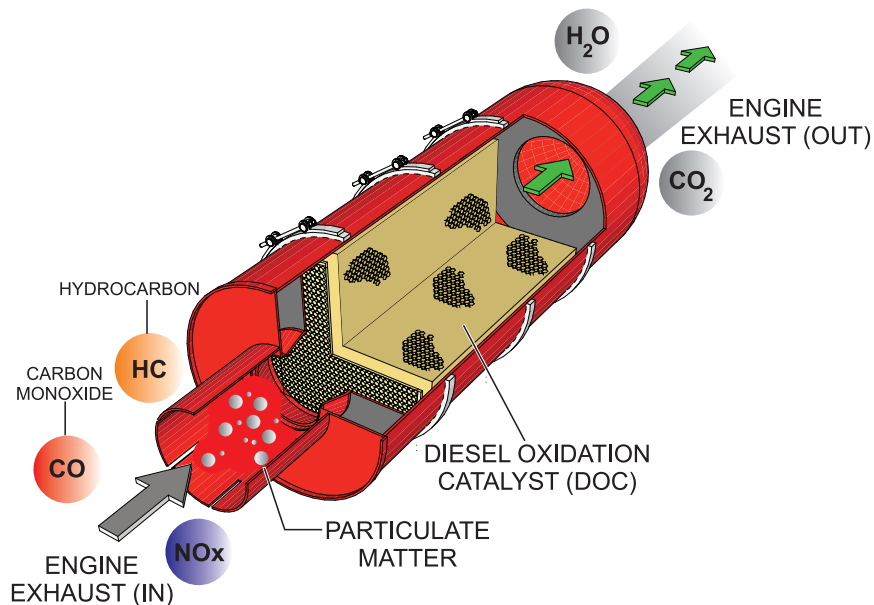

Figure 80. Diesel Oxidation Catalyst (DOC)
The DOC device (Figure 80) helps filter out large amounts of harmful nitrogen oxides (NO_x) and particulate matter (PM) which are emitted by diesel engines. These exhaust emissions pose serious environmental and health risks. It is important to maintain and service the DOC emission safety device on a periodic basis.